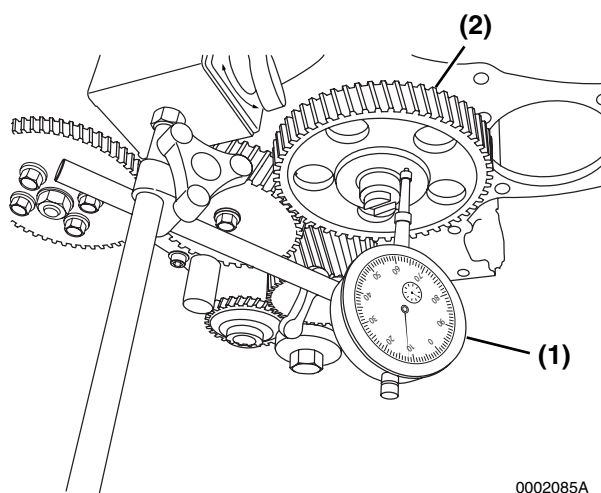

Figure 6-92
- **Method A:** Install a dial indicator (Figure 6-92, (1)) on the cylinder block. Move the camshaft (Figure 6-92, (2)) back and forth to measure the end play. Record the measurement. See Camshaft on page 6-10 for the service limit.